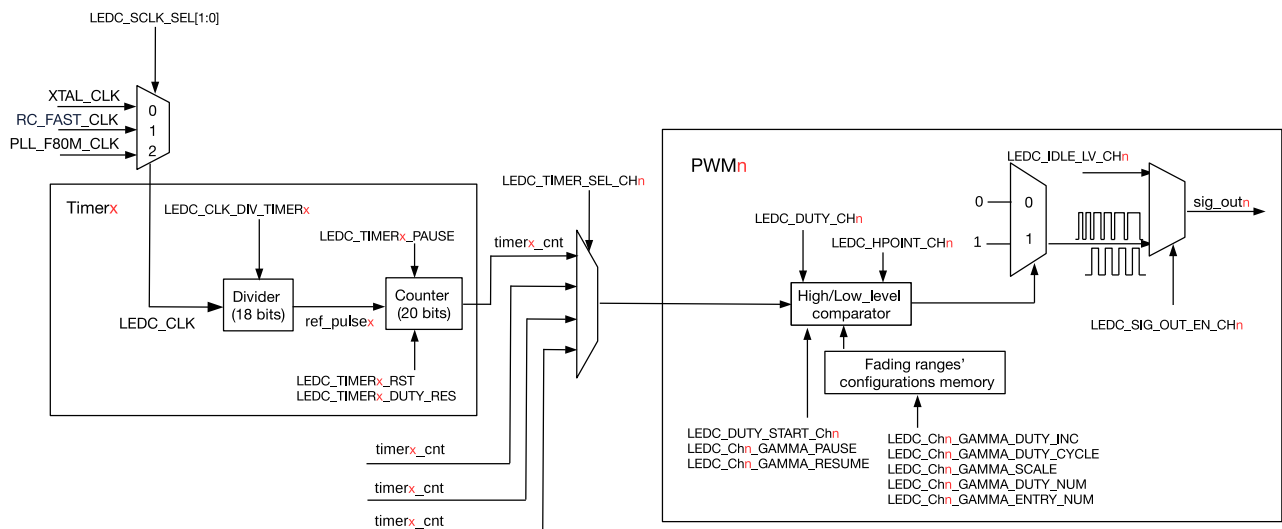
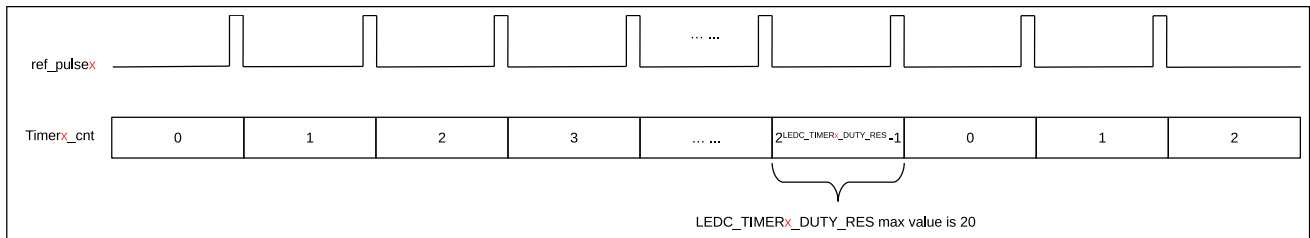

Figure 40.3-2. Timer and PWM Generator Block Diagram
Figure 40.4-2. Relationship Between Counter And Resolution
Figure 40.3-2 illustrates the main functional blocks of the timer and the PWM generator.
Each timer in LED PWM Controller internally maintains a timebase counter. Referring to Figure 40.3-2, this clock signal used by the timebase counter is named `ref_pulsex`. All timers use the same clock source `LEDC_CLK`, which is then passed through a clock divider to generate `ref_pulsex` for the counter.
The LEDC_CLK signal is passed through a clock divider to generate the `ref_pulsex` signal for the counter. The frequency of `ref_pulsex` is equal to the frequency of LEDC_CLK divided by the divisor LEDC_CLK_DIV (see Figure 40.3-2).
Each timer contains a 20-bit timebase counter that uses ref_pulse_x as its reference clock (see Figure 40.3-2). The `LEDC_TIMERx_DUTY_RES` field configures the actual used bit width of this 20-bit counter. Hence, the maximum resolution of the PWM signal is 20 bits. The counter counts up to $2^{\text{LEDC_TIMER}_x\text{_DUTY_RES}} - 1$, overflows and begins counting from 0 again. The counter's value can be read, reset, and suspended by software. Figure 40.4-2 shows the relationship between the counter and PWM resolution.
Referring to Figure 40.3-2, the frequency of a PWM generator output signal (`sig_outn`) is dependent on the frequency of the timer's clock source `LEDC_CLK`, the clock divisor `LEDC_CLK_DIV`, and the duty resolution (counter width) `LEDC_TIMERx_DUTY_RES`:
As shown in Figure 40.3-2, each PWM generator has a comparator and two multiplexers. A PWM generator compares the timer's 20-bit counter value (`Timerx_cnt`) to two trigger values `Hpointn` and `Lpointn`. When the timer's counter value is equal to `Hpointn` or `Lpointn`, the PWM signal is high or low, respectively, as described below:
- `LEDC_TASK_SIG_OUT_DIS_CH $n$` : If the `LEDC_TASK_SIG_OUT_DIS_CH $n$ _EN` field is enabled, upon receiving the `LEDC_TASK_SIG_OUT_DIS_CH $n$` task, PWM n 's signal output is disabled, and the output signal (`sig_out $n$`) outputs a constant level as specified by field `LEDC_IDLE_LV_CH $n$` , as shown in Figure 40.3-2.